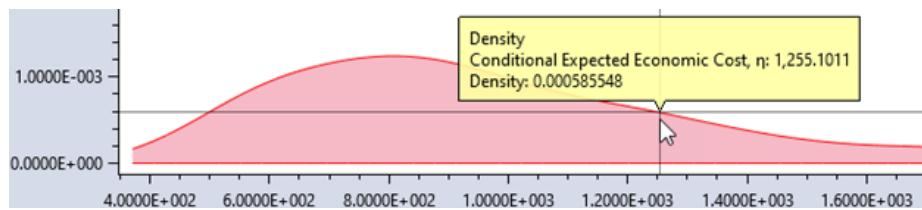

Figure 4.36: Using Track Data on a plot.
- **Track Data** by clicking on any plotted point or line in the graph. A tooltip then displays the plot series name along with the X and Y data points (Figure 4.36).